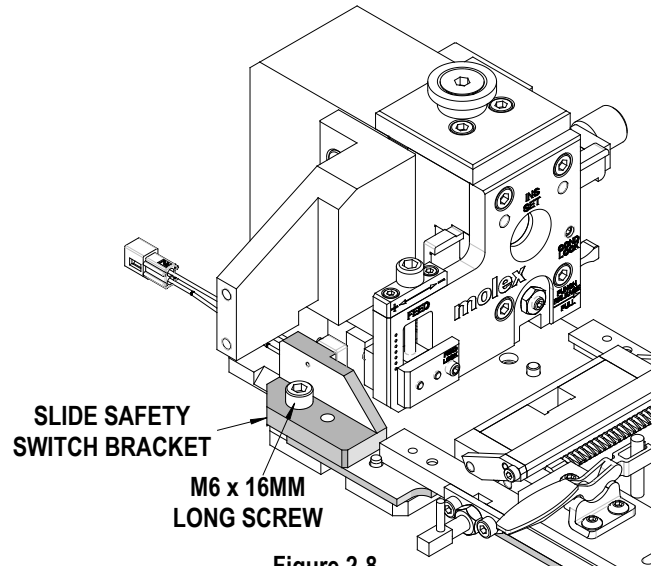

Figure 2-8
6. The left side of the FFC base plate is clamped to the Crimp Module base plate with the slide safety switch bracket and an M6 x 16mm long screw. See Figure 2-8.